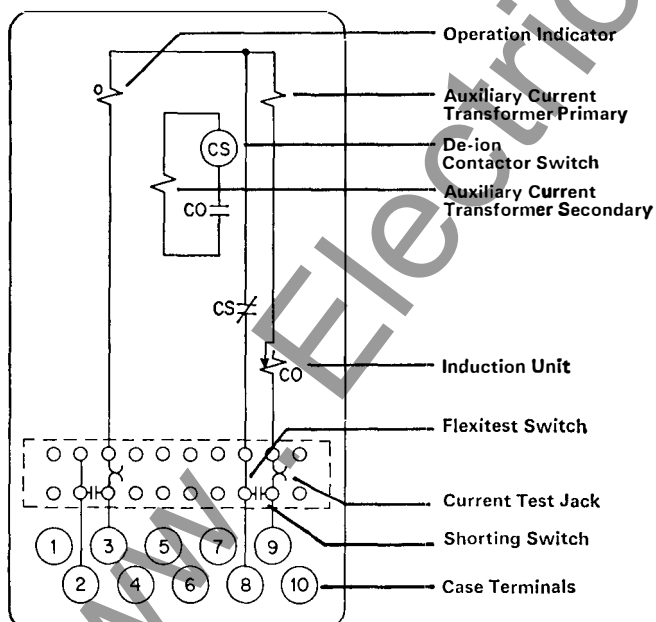

Fig. 12
As shown in figures 12 and 13, closing of the CO unit contacts energizes a De-ion[®] contactor switch (CS) whose contacts shunt the ac trip current through the breaker trip coil.
Burden of the auxiliary current transformer (figures 12 and 13) with 4 amperes applied is 4.6 volt-amperes with the CO contacts closed, and 5.7 volt-amperes with the contacts open.
Used in circuit opening type CO relays as shown schematically in figures 12 and 13. This scheme is applied where ac trip coils are used on the circuit breakers, energized by the line current transformers. When the CS coil is energized by a small transformer located within the relay case, its normally closed contacts open to remove the by-pass around the breaker trip coil, thus tripping the breaker.